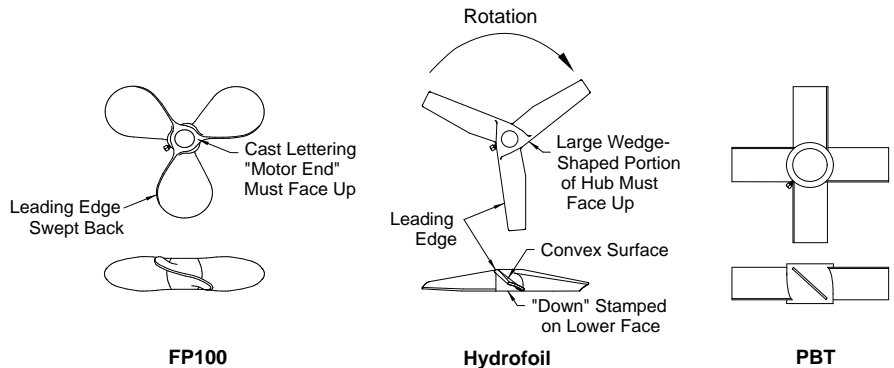

Figure 9 – Impeller Designs
- a. **FP100 impeller** - "Motor End" is cast on the upper side of the impeller. Figure 9 shows how to determine the upper face of the impeller in the event the lettering becomes illegible.
NOTE: Stamping is not present on polished impellers. Refer to Figure 9 for general orientation reference. Tighten impeller set screws securely. For unusually severe conditions, the shaft should be spotted for the set screws.
NOTE: On 3-A units, the impeller is welded to the shaft; the set screw does not protrude as shown in Figure 9.